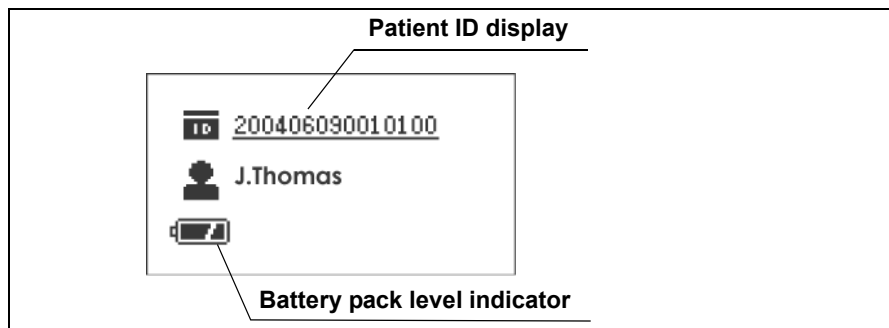

Figure 5.35
- The following information display screen (see Figure 5.35) is displayed on the recorder unit's display panel, and the indicator lamp illuminates in green.